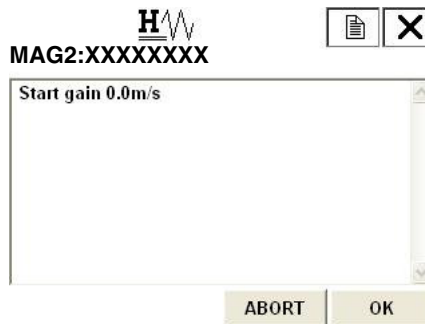

Figure 117.
- 5. Figure 117 then appears. When executing the adjustment, press F4 (ENTER) to start the adjustment.